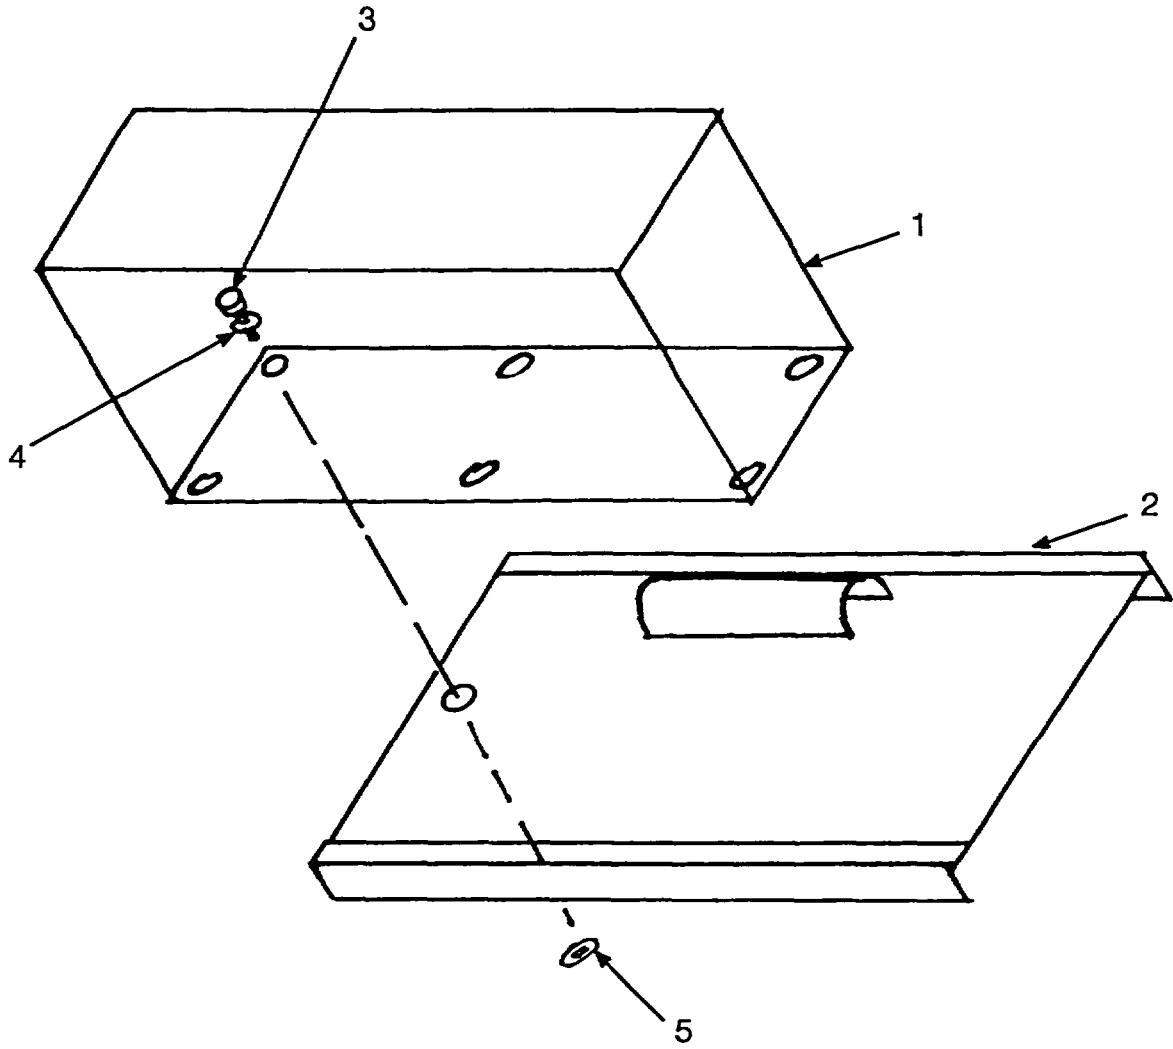

Figure 5. Guy Wire Accessory Kit Storage Box
e. Installation of Guy Wire Kit Accessory Storage Box (fig. 5.)
(1) Before installation, remove contents from Guy Wire Kit Accessory Storage Box (1).
(2) Install empty Guy Wire Kit Accessory Storage Box on to Ground Rod Box Support (2) by locating it over template holes. Secure using six 5/16-18 x 2 1/2 bolts (3), twelve flat washers (4) and six lock nuts (5).